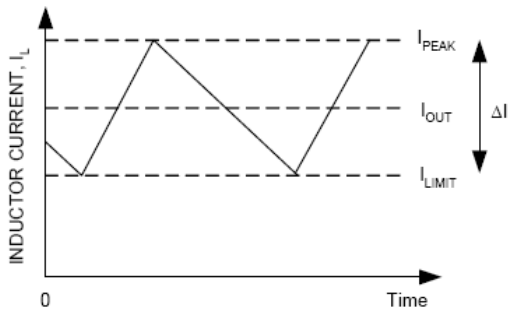

Figure 2. Current-Limit Algorithm
The current-limit circuit employs a "valley" current-sensing algorithm (See Figure 2). The HM1468 uses the low side MOSFET's RDS(ON) of the synchronous rectifier as a current-sensing element. If the magnitude of the current-sense signal at PHASE pin is above the currentlimit threshold, the PWM is not allowed to initiate a new cycle. The actual peak current is greater than the currentlimit threshold by an amount equals to the inductor ripple current. Therefore, the exact current-limit characteristic and maximum load capability are the functions of the sense resistance, inductor value, and input voltage.